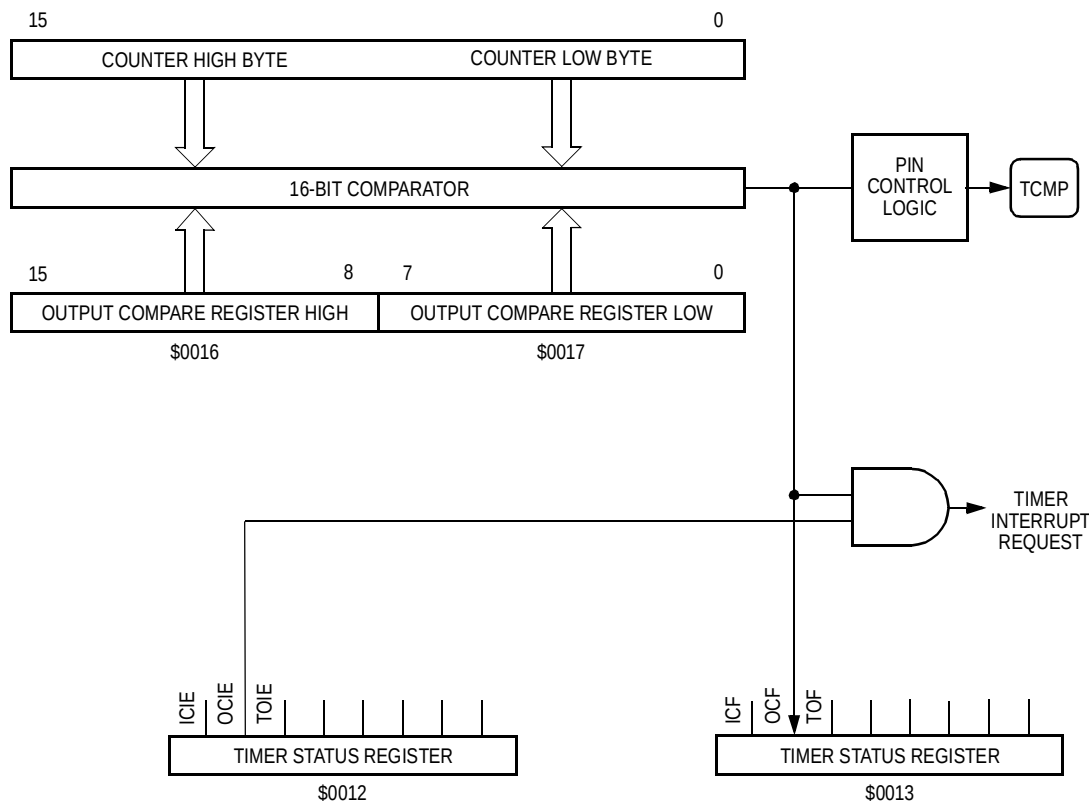

**Figure 8-4. Output Compare Operation**
**Figure 8-4** shows the logic of the output compare function.